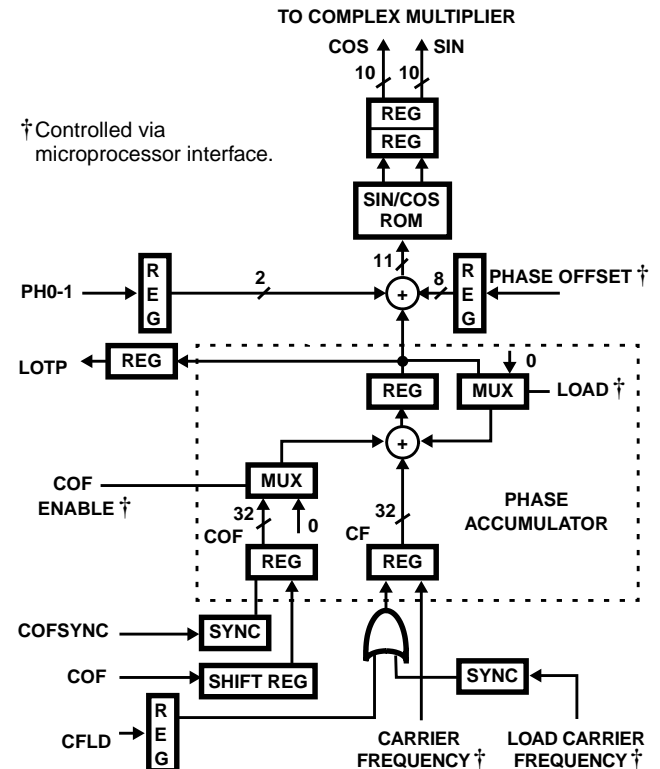

FIGURE 2. SYNTHESIZER NCO
The quadrature outputs of the NCO are generated by driving a sine/cosine lookup table with the output of a phase accumulator as shown in Figure 2. Each time the phase accumulator is clocked, its sum is incremented by the sum of
The phase of the NCO's quadrature outputs can be adjusted by adding an offset value to the output of the phase accumulator as shown in Figure 2. The offset value can be loaded into the Phase Offset (PO) Register or input via the PH0-1 inputs. If the PO Register is used, the phase can be adjusted from $-\pi$ to π with a resolution of $\sim 1.4^{\circ}$. The phase offset is given by the following equation,